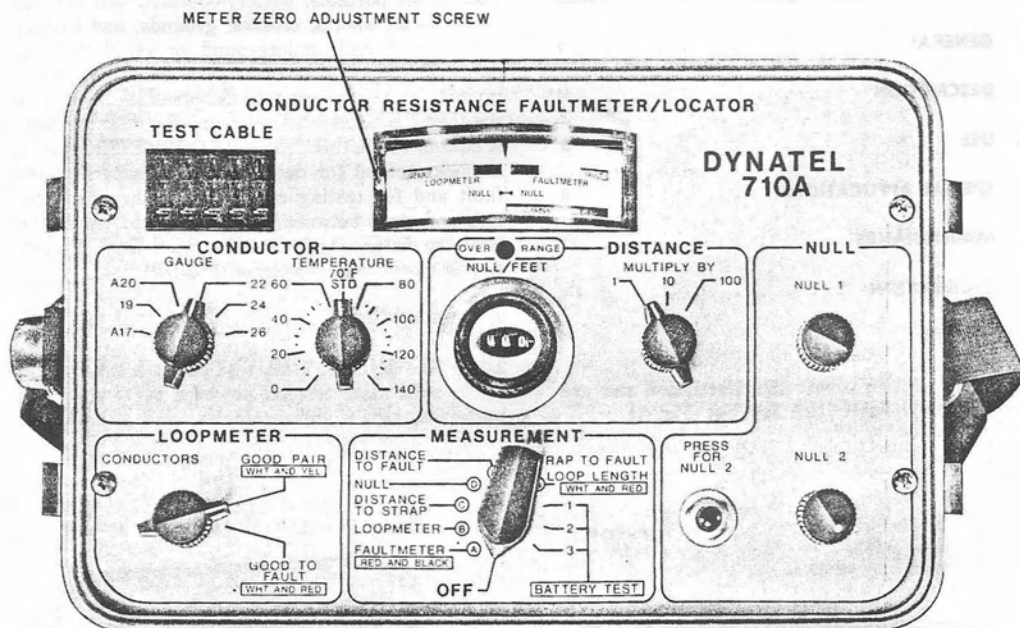

Fig. 2—Front Panel of Test Set
- 2.02 The switches, controls and meter are located on the front panel of the test set (Fig. 2).